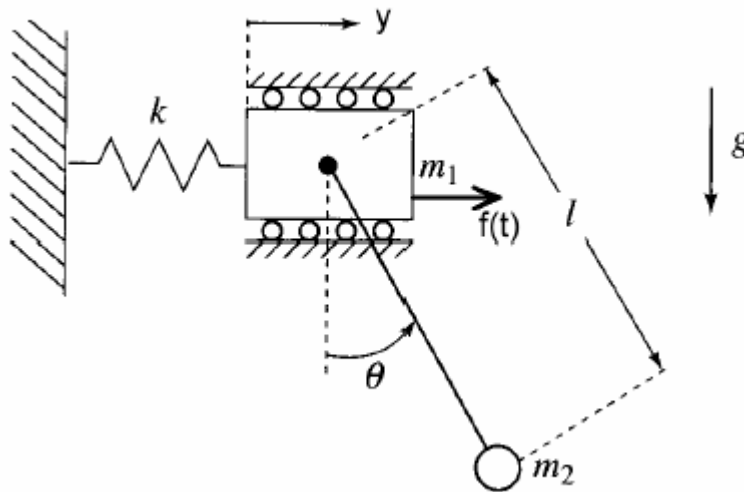

Figure 1
- Q2. Consider the system shown in Figure 1 where $m_1 = 30 \text{ kg}$, $m_2 = 2 \text{ kg}$, $k = 15 \text{ N/m}$, $l = 2 \text{ m}$, $f(t) = 10 \sin(5t) \text{ N}$.